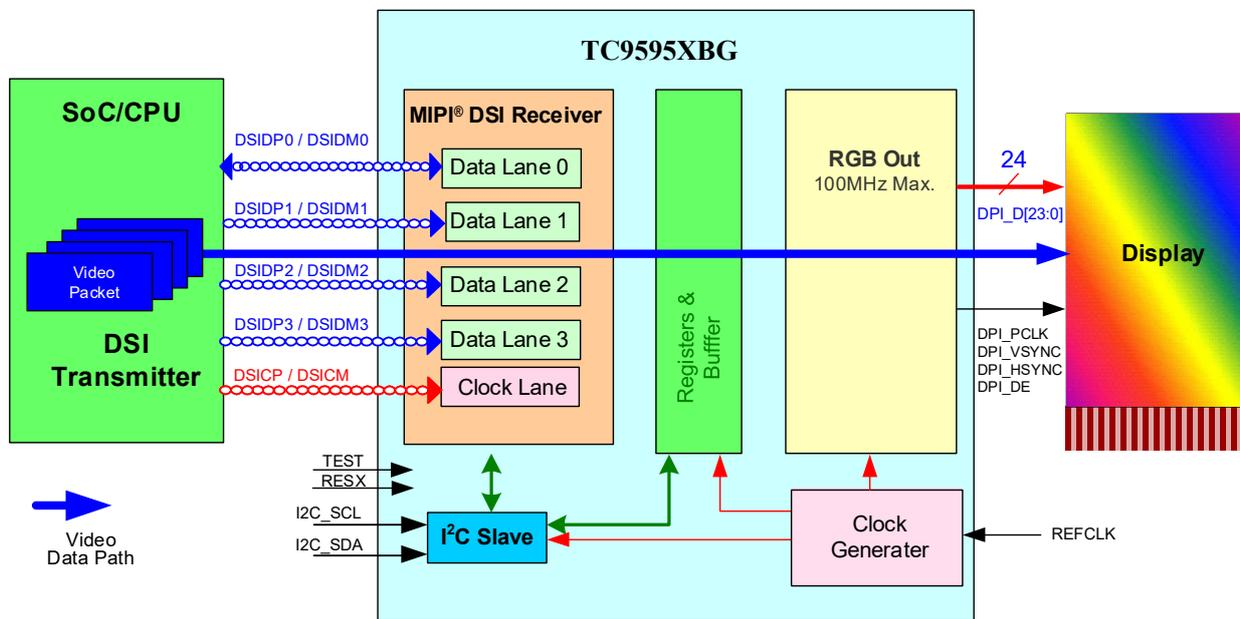

Figure 1.3 System Overview with TC9595XBG in MODE_S2P Configuration
- **Mode_S2P:** A system configuration where TC9595XBG may typically be used is shown in Figure 1.3. In this mode, DisplayPort™ output is not used and the chip rather behaves as a DSI to RGB convertor. In this system, TC9595XBG could be connected to a single display. In this configuration, the TC9595XBG can support displays with resolution up to WXGA (1280x800 or 1366x768). Maximum output PCLK is 100MHz. Video stream source is from DSI Host.